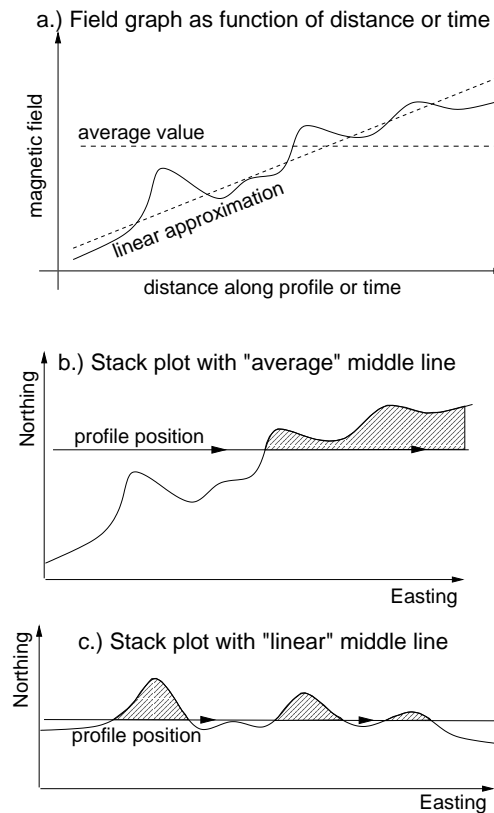

Figure 6: Different methods of creating stack profile plot.
13. **Middle line approximation** To prepare a stack plot the program first must estimate which values are plotted on the right part of the path and which are on the left. Total Earth's magnetic field is always positive and therefore should be transformed to make it suitable for such a presentation. The simplest way to calculate the average value for the profile and subtract it from the field thus producing positive and negative anomalies. However this method would lead to unacceptable results if field has a regional trend. For example, a slow increase from West to East (see figure 6). Plate (a) shows a magnetic field as distance along the profile or time. There are few anomalies with a linear increasing background. Plate (b) shows what one can get if a